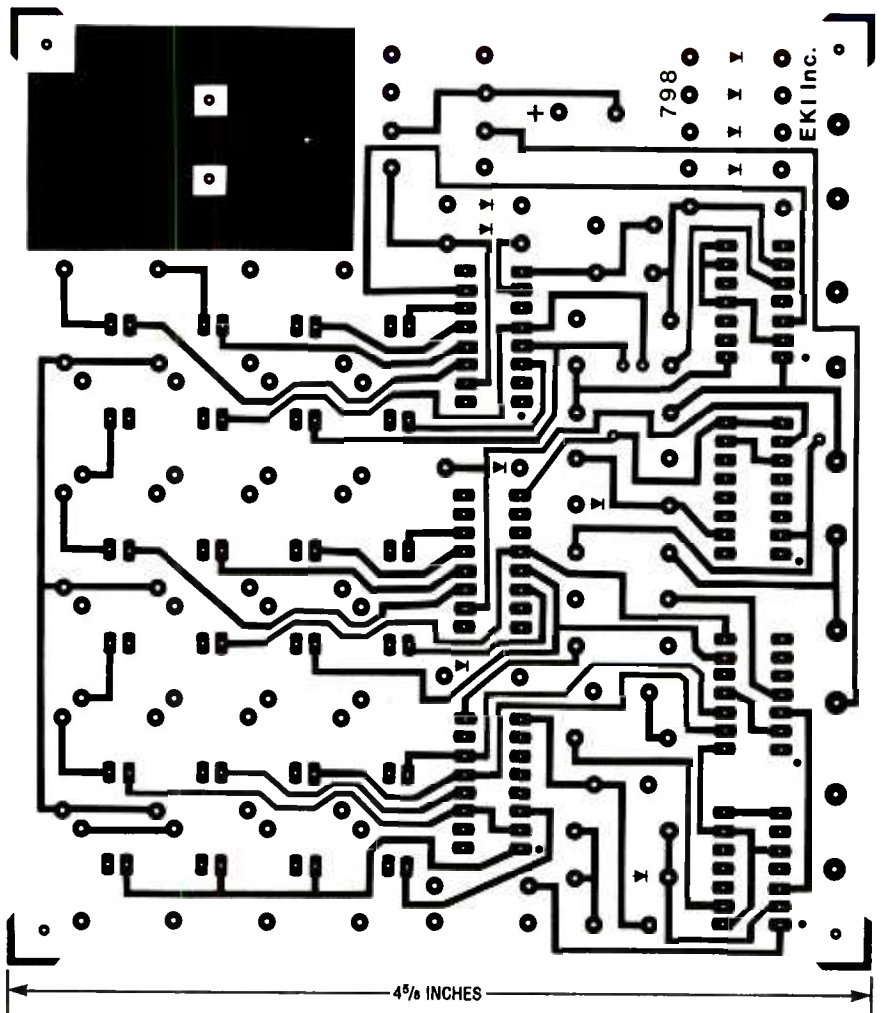

Fig. 2. The Binary Clock was built on a double-sided printed-circuit board; the component side is shown here.
However, the printed-circuit layouts shown in Figs. 2 and 3 represent a two-sided board with "plated-through" holes. If you are not equipped to produce that kind of board, I'd certainly recommend that you purchase the printed-circuit board offered in the Parts List. It is a very clean design, with
**How it Works.** The circuit behind the fish lure (see Fig. 2) is so simple—a battery, resistor, and a lamp—that it is almost not worth showing. A resistor can be added (as shown) to limit current through the light-producing element and to regulate the brightness of the light, but it is not usually needed because the internal resistance of the battery will keep the current at about 33 mA.
Fig. 2. Here is the simple circuit that comprises the electrical portion of the Electronic Fish Lure. Note: The resistor (R1) may or may not be needed; that will have to be determined by experimentation.